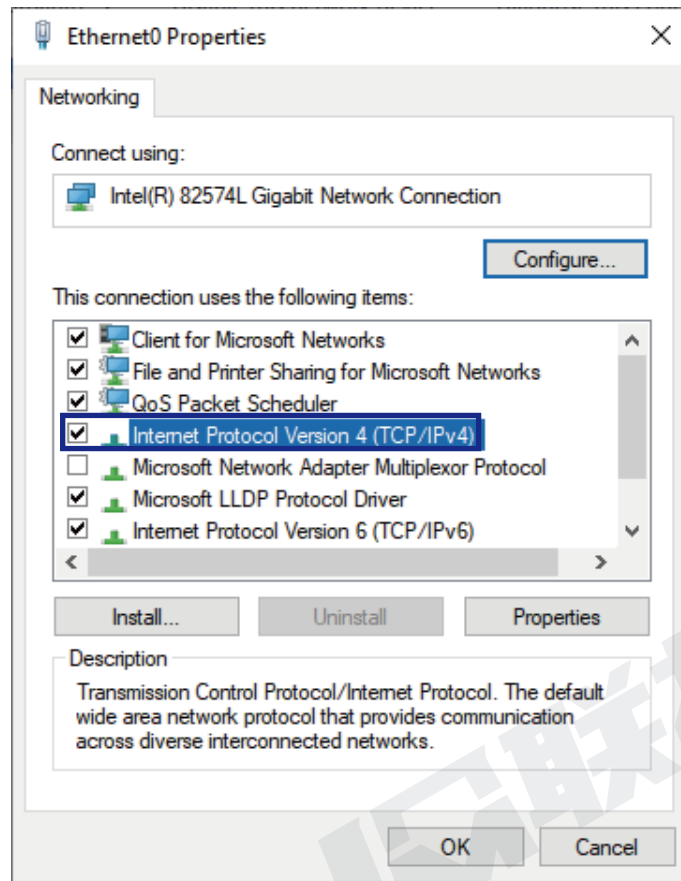

Figure 8-21
Step 3: Right click and hit “Properties” and it popup the windows and double click “Internet Protocol Version 4 (TCP/IPv4)” as the Figure 8-21: